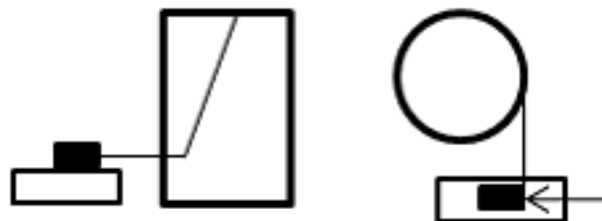

Figure 1: Force Parallel to Wiper Pivot
4.3.1.6 Apply force parallel to the wiper pivot (see Figure 1) such that the float is displaced by 5 mm and record resistance value.